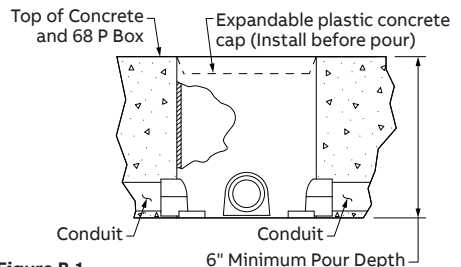

Figure B.1
1. Install box in concrete as shown in Figure B.1, leveling the top of the box with the screed line of the concrete.